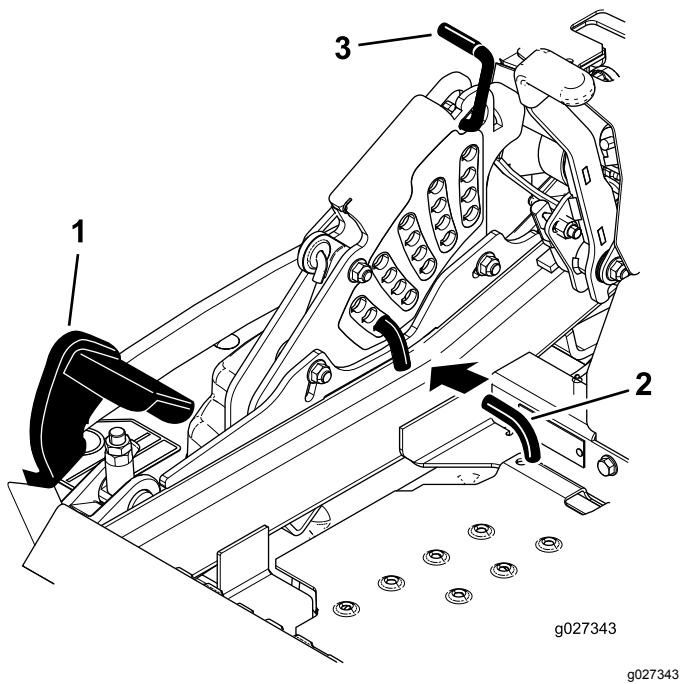

Figure 86
5. Push the deck-lift pedal all the way forward so the deck latches at the 14 cm (5-1/2 inch) transport position (Figure 86).